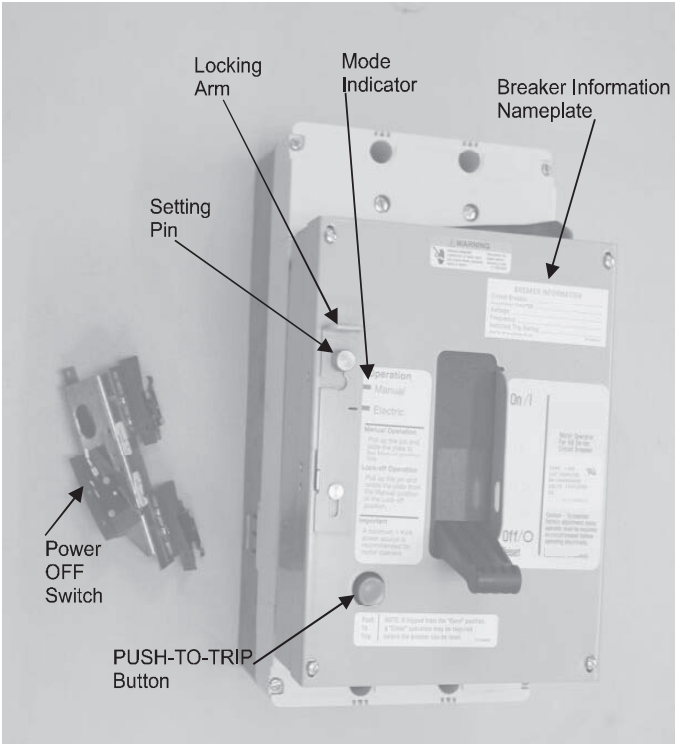

Fig. 3-1. Motor Operator Features
- 3-1. Pull up the setting pin and slide the locking arm (white line) to the Electrical Operation mode, (Figs. 3-1 and 3-2).
- 3-4. Press the "PUSH-TO-TRIP" button (see Fig. 3-1); verify that the breaker trips. Energizing the "OFF" button, motor operator will "RESET" the breaker.
- 3-5. Pull up the setting pin and slide the locking arm (white line) to the Manual Operation mode. In this mode electrical power to the motor is cut off (Figs. 3-1 and 3-3).
- 4-3. Use a .125-in. dia. pin (customer supplied) and insert into the .130-in. dia. hole near the "POWER-OFF" switch to hold switch "ON" (Figs. 3-1 and 4-1).